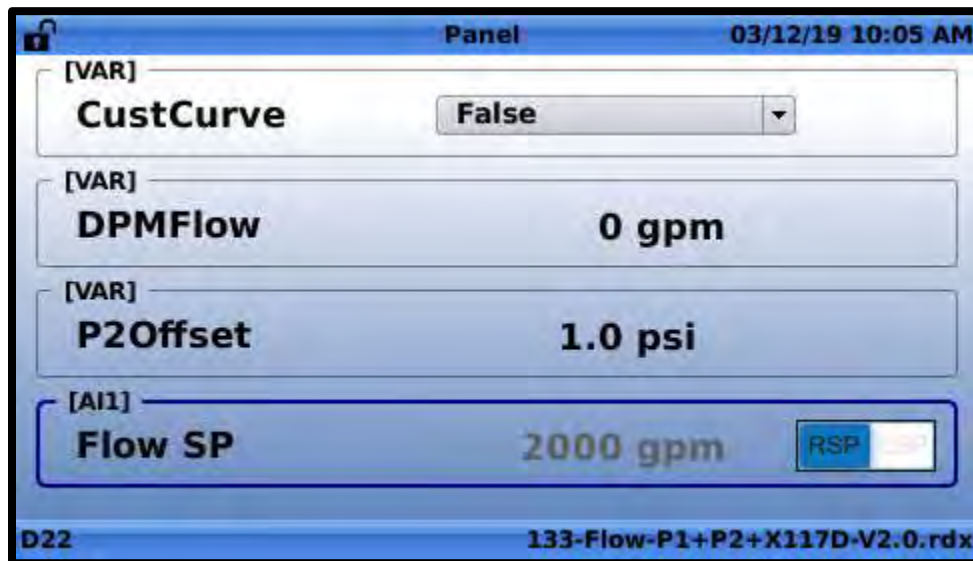

Figure 8.5
3. Use the left and right navigation buttons to highlight the "RSP/LSP" graphic as shown in **FIGURE 8.5**.